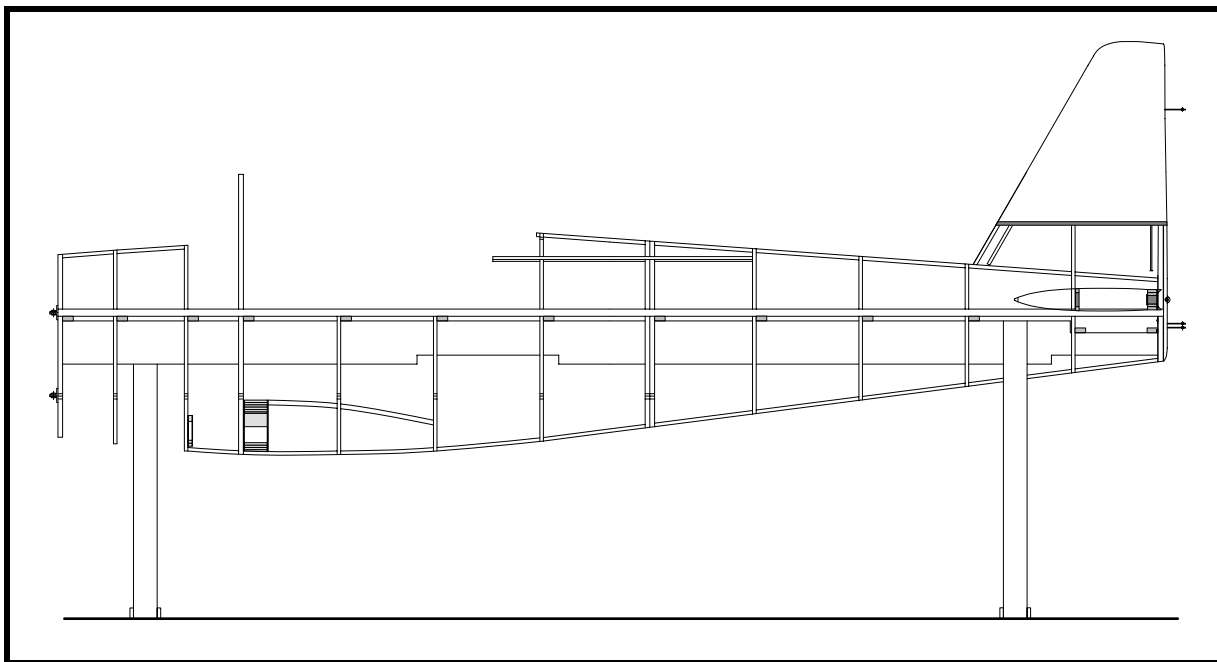

Figure 19
- ❑ Clamp the left 20x10 stringer in position. See Figure 19. Sand the cutouts to fit.